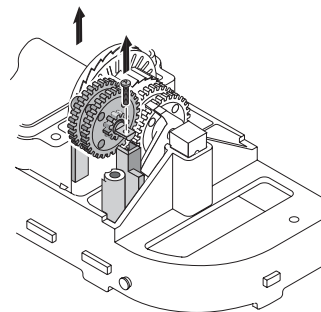

Figure 24
6. Remove the set screw, short gear shaft, and gears (Figure 24); be sure to keep the gears on.